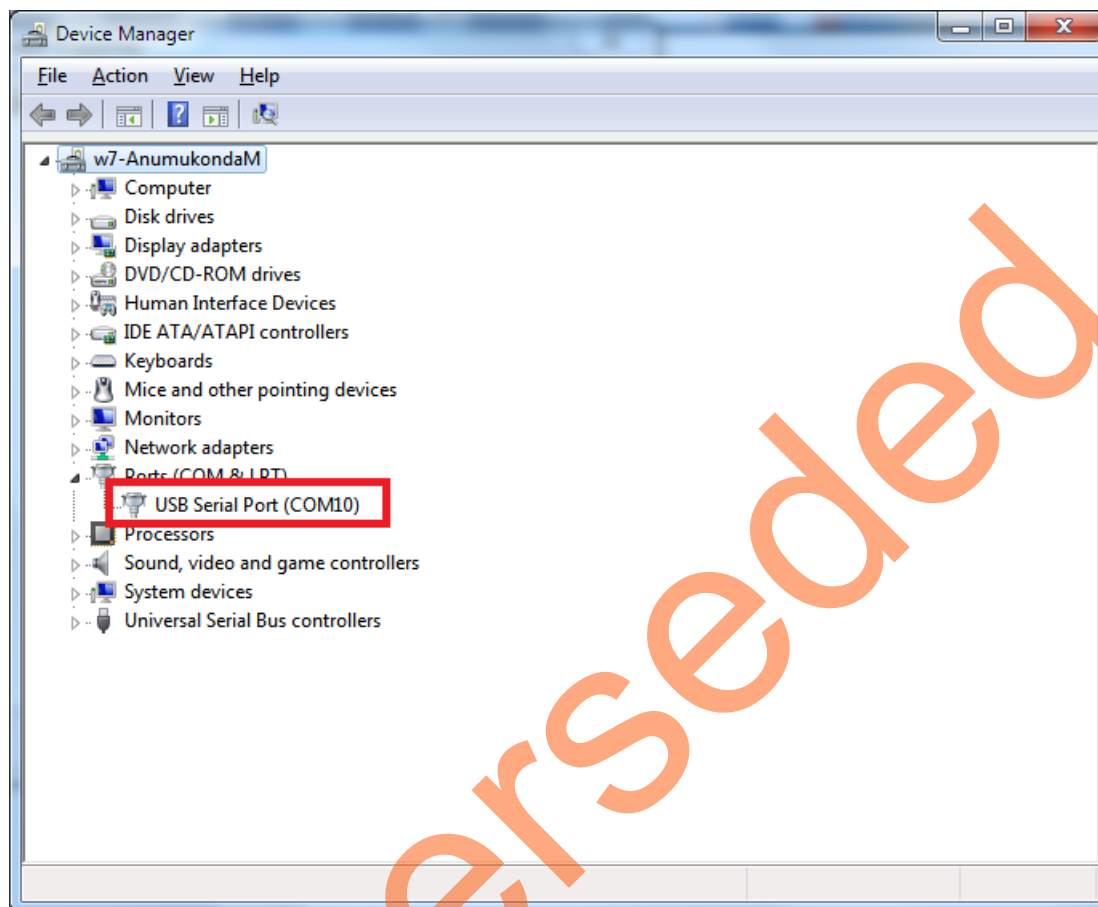

Figure 5 • USB to UART Bridge Drivers
4. Ensure that the USB to UART bridge drivers are automatically detected. This can be verified in the **Device Manager** of the Host PC. Figure 5 shows the USB Serial port.